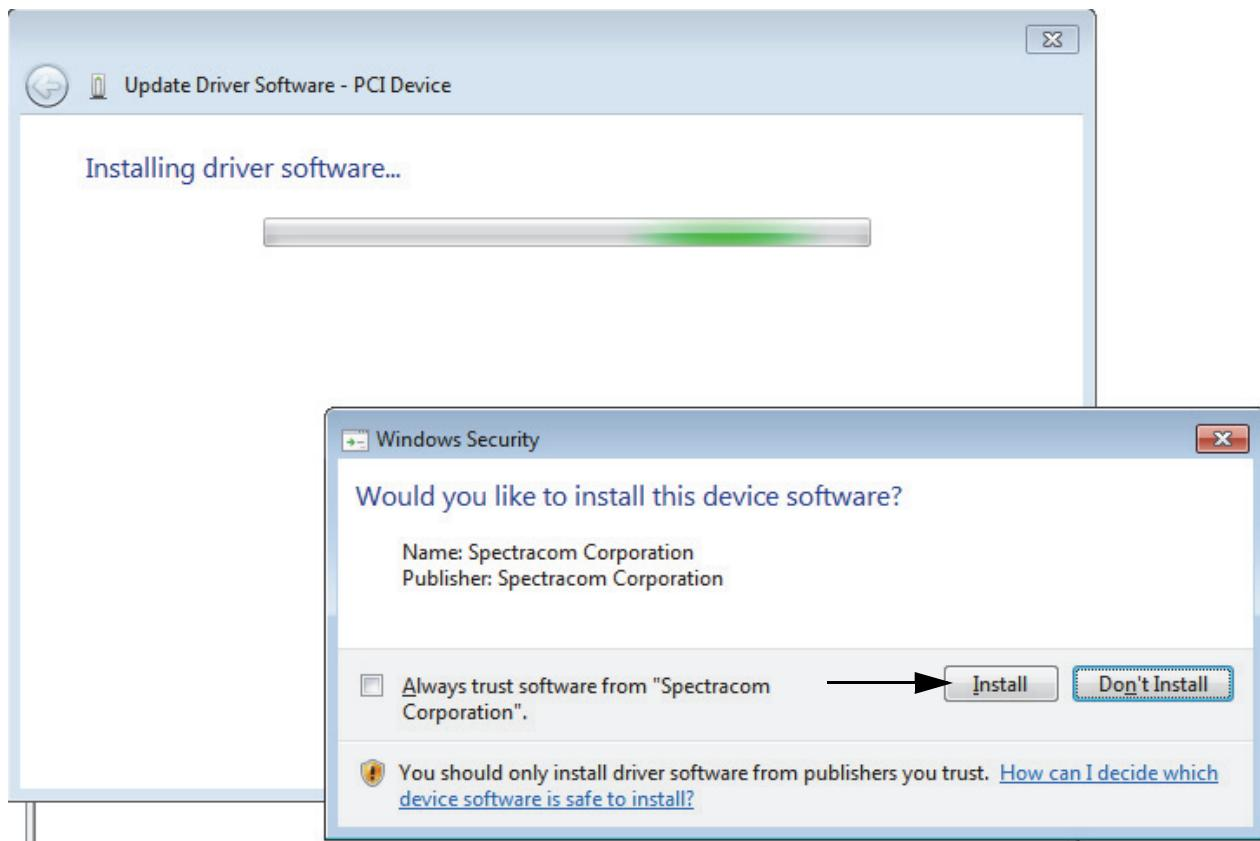

Figure 5-26. Confirm Install at Windows Security Window
11. Select **Install**, when prompted by Windows Security windows as shown in Figure 5-26.